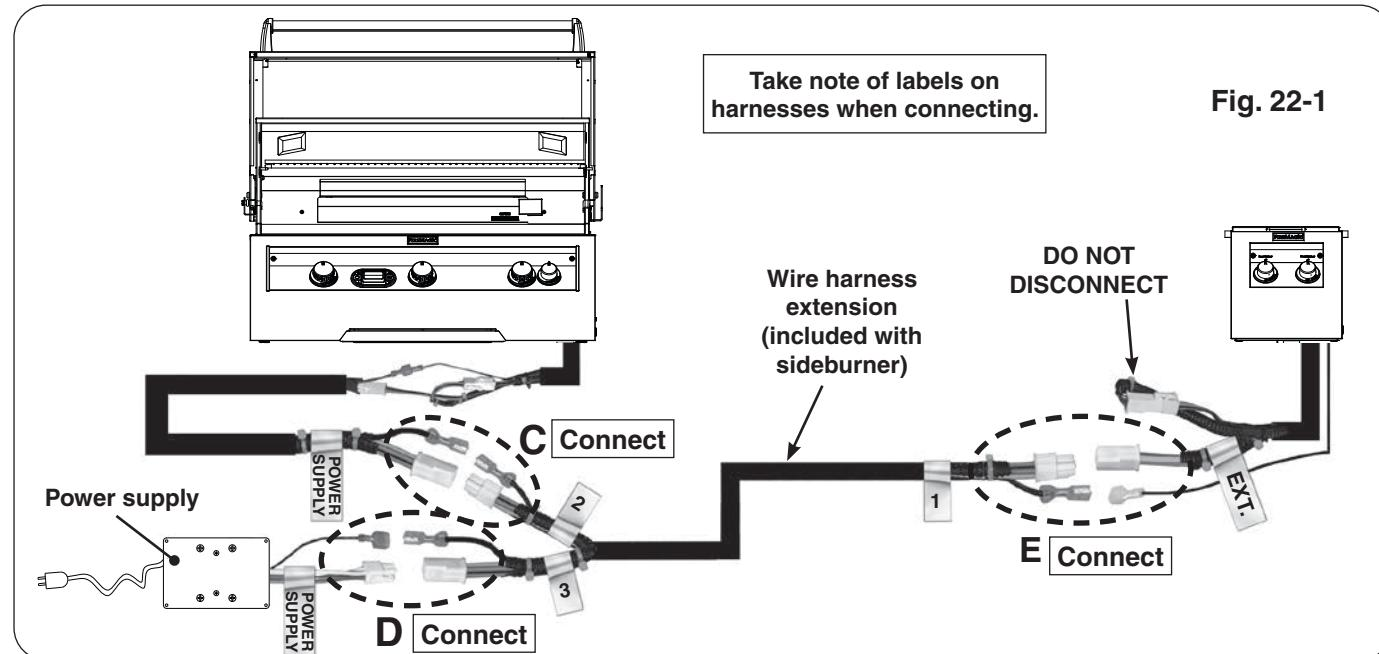

Fig. 22-1
- Locate the "Y" end of the wire harness extension that is included with the sideburner and make connections C and D (see Fig. 22-1, C & D).
- Connect the opposite end of the wire harness extension to the sideburner connectors (see Fig. 22-1, E).